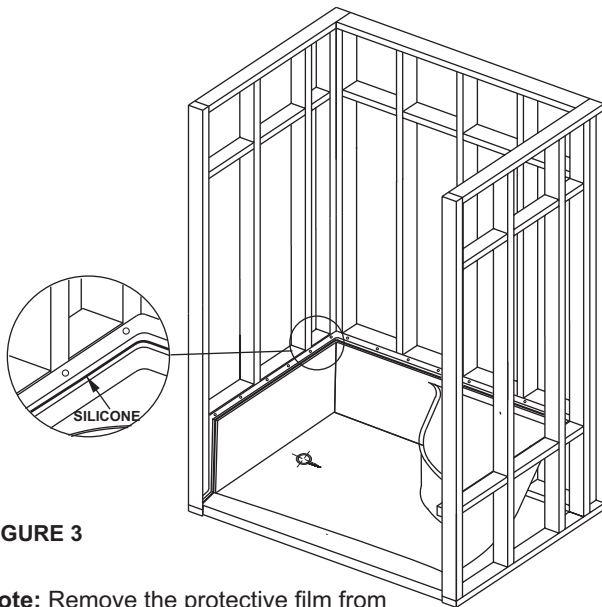

FIGURE 3
- The shower base is fastened in place using dry wall screws. Holes are to be drilled in the flange on both sides and across the top. The holes are to be drilled by the installer as illustrated in figures 3 - 6 on the following pages.
- Carefully position the base section in the alcove and push flush against the framework walls as shown in figure 3.
- Apply a thick bead of silicone all around the base flange periphery as shown in figure 3 detail.